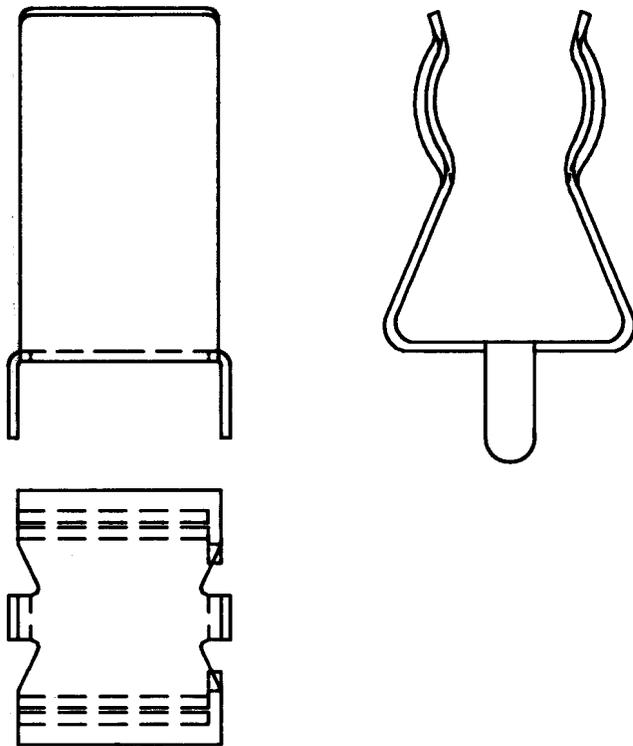
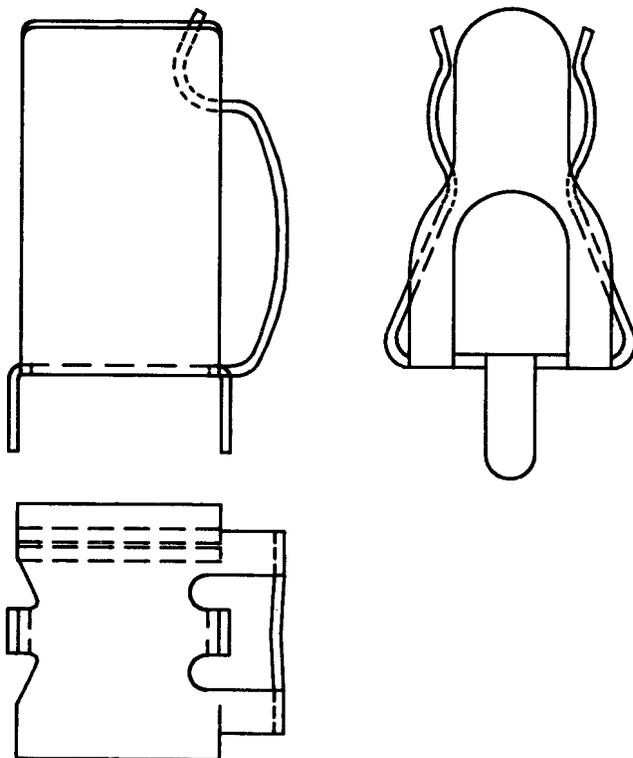
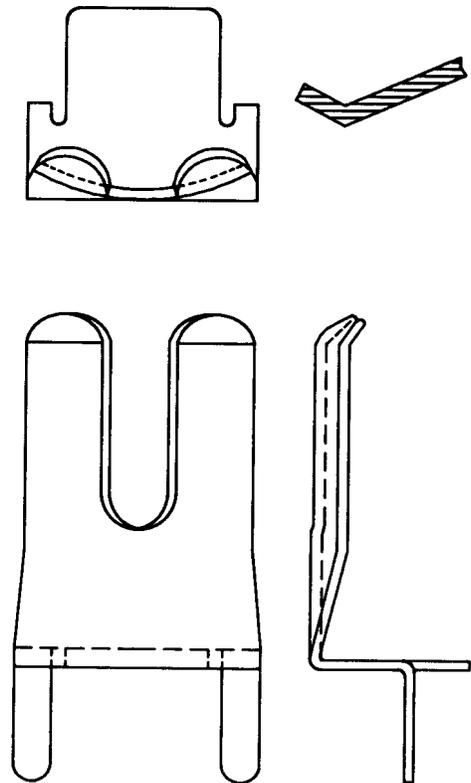

Fig. 19—KS-21613, L1, Fuse Clip (Battery Terminal)
Fig. 20—KS-21613, L2, Fuse Clip (Load Terminal)
Fig. 21—KS-21613, L3, Fuse Clip (Alarm Terminal)
**3.15** The KS-21613 fuse clips are used with low-voltage 70-type fuses. The fuse clips are mounted on printed circuit boards. The KS-21613, L1, (Fig. 19) is a battery terminal. The KS-21613, L2, (Fig. 20) is the load terminal, and the KS-21613, L3, (Fig. 21) is the alarm terminal.